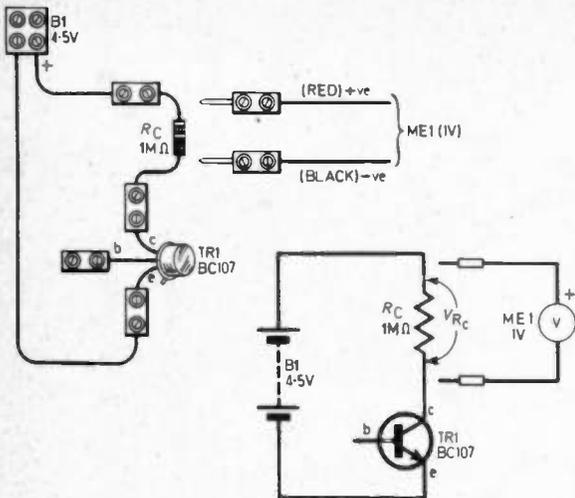

Fig. 7D.1. Positioning and wiring up details on the Circuit Deck for experiment 7D together with the theoretical circuit diagram.
1. Set up the components on the Circuit Deck according to Fig. 7D.1 and measure the voltage across the collector resistor ( $V_{Rc}$ ) using the meter on the 1 volt range and fixed to the terminals.